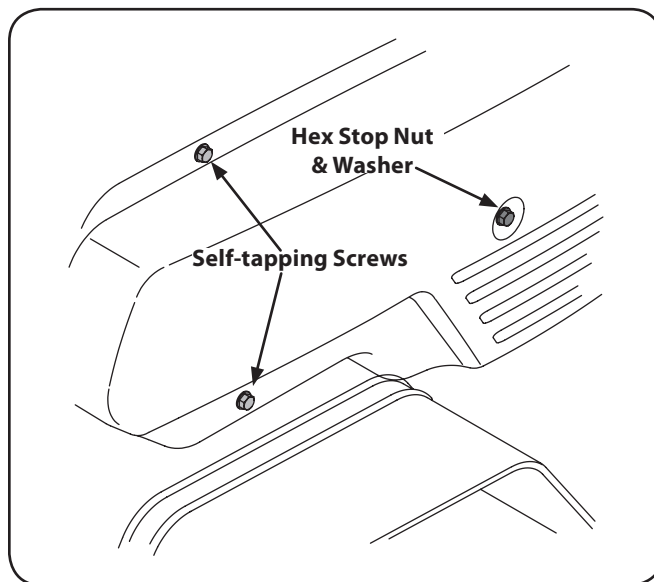

Figure 7-1
2. Remove the belt cover from the left side of the tiller by removing the two self-tapping screws and hex stop nut and washer. See Fig. 7-1.